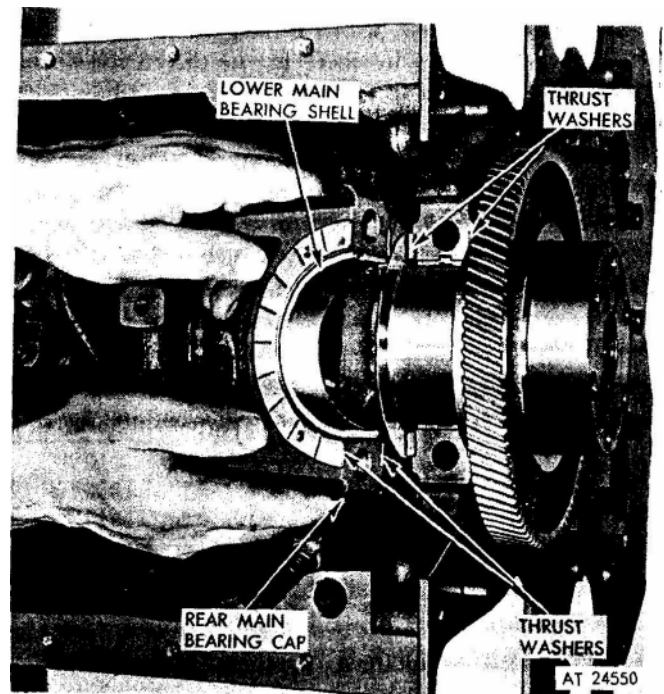

Figure 7. Rear main bearing thrust washer and mounting.
2. Assemble crankshaft thrust washer before installing rear main bearing cap. Clean both halves of thrust washer carefully, removing any burrs from the seats — the slightest particle of dirt may decrease clearance between washers and crankshaft beyond limits. Slide upper halves of thrust washers into place in their grooves, as shown in figure 7; then assemble lower halves over dowel pins in bearing cap.